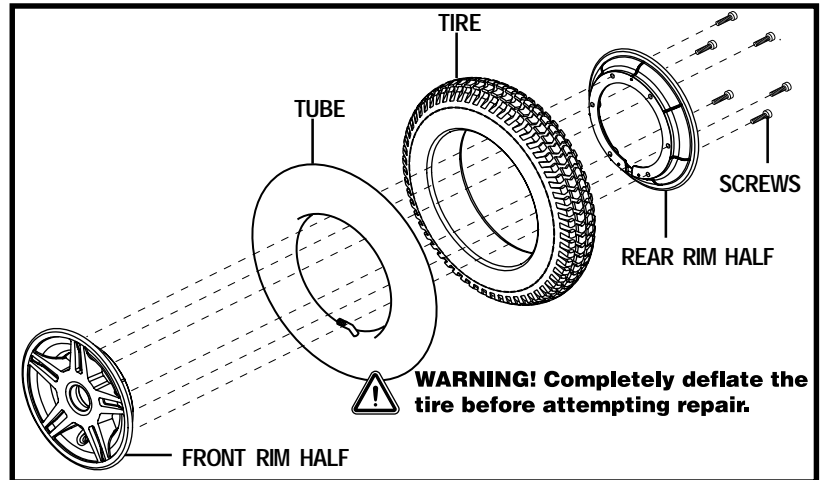

Figure 35. Quantum 600 XL Drive Wheel Disassembled
6. Remove the screws that fasten the two rim halves together. See figure 35.